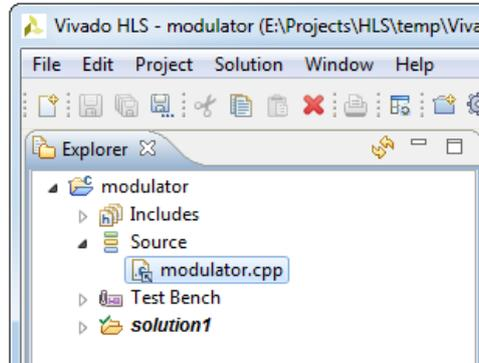

Figure 2.14: Source folder with modulator.cpp file
Step 1. In the Vivado HLS **Explorer** pane expand **Source** folder and double-click on the *modulator.cpp* C++ file to open it, see Figure 2.14.